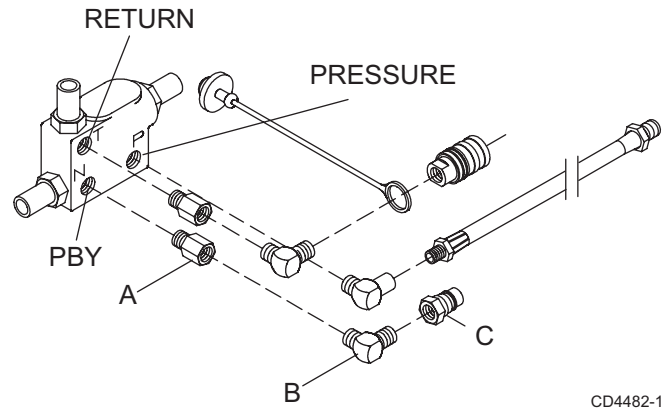

Figure 8. 1006 Loader Hydraulic Fitting
1. Remove male quick coupler (C) and elbow (B) from the PBY port (N) on the hydraulic manifold. See Figure 8.